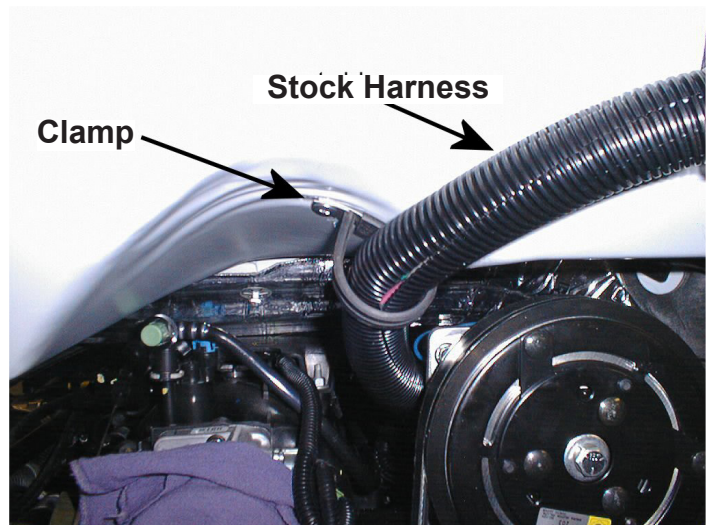

Figure 43. Hold Main Wire Harness Away from CDS Clutch
3. Use the provided 1-½" cushion clamp and self-tapping screw to hold the main wire harness away from the CDS clutch (see Figure 43).